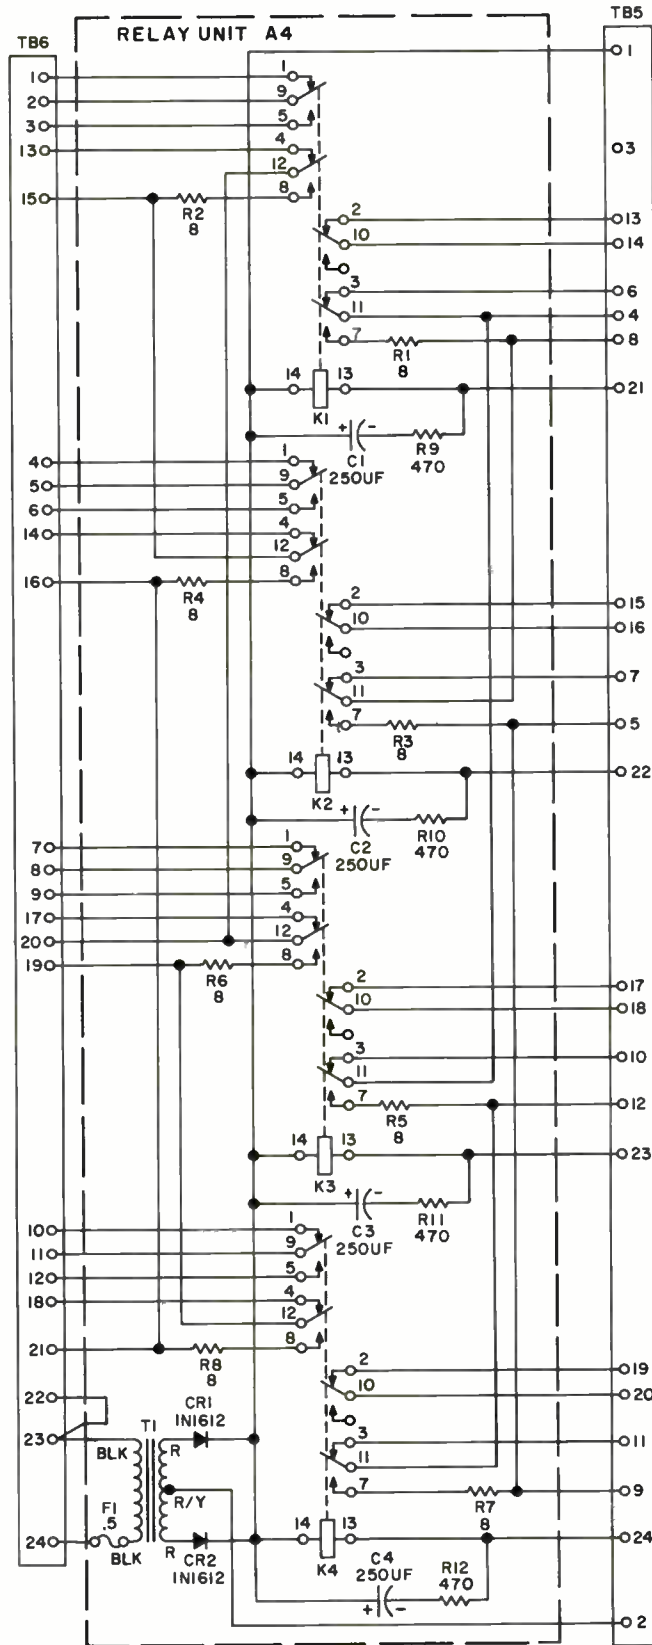
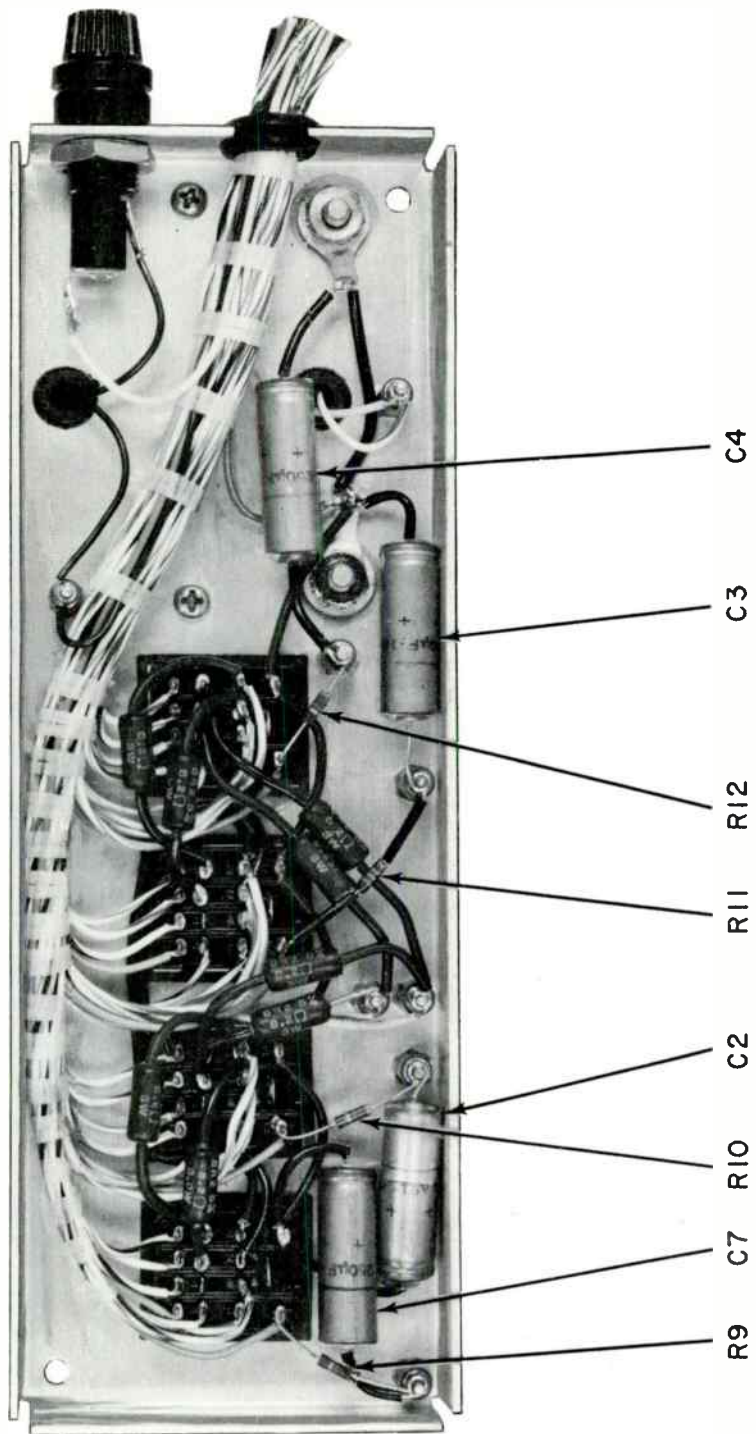

Figure 3. Relay Module, Revised Schematic
Figure 4. Completed Modification, Relay Module
7. The completed modification is shown in figure 3 and a revised schematic in figure 4.